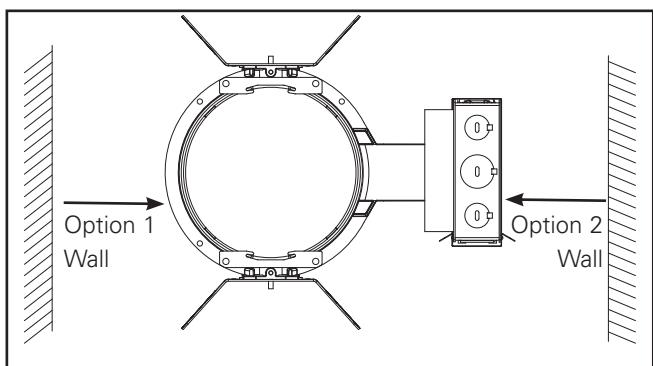

Figure 13
1. For wall wash option install frame with junction box toward wall. (Figure 13)